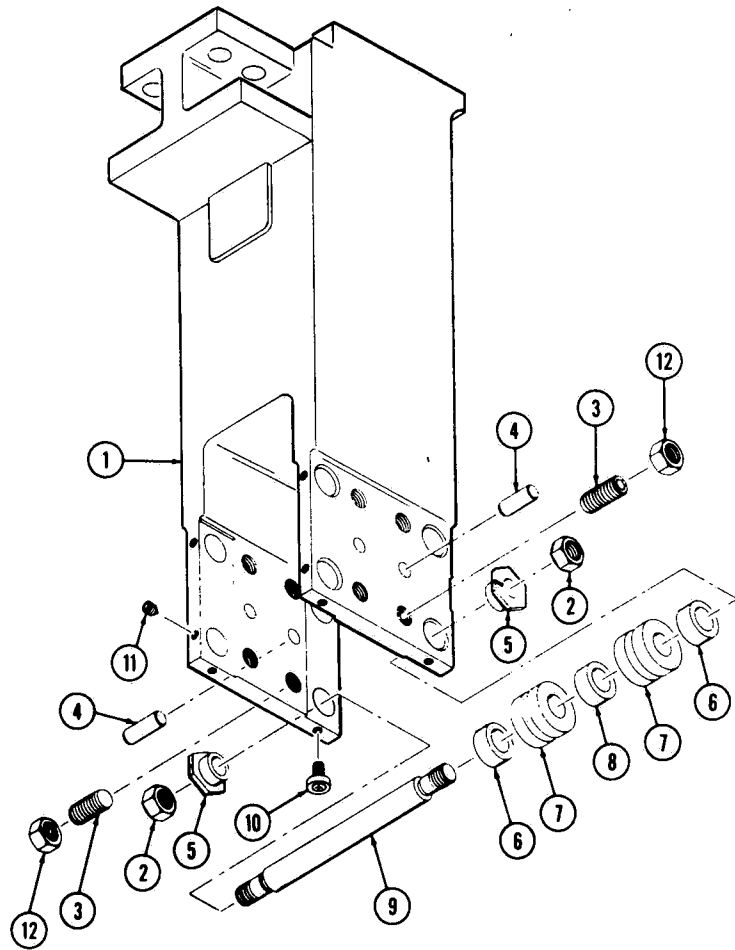

Figure 4. TABLE SUPPORT ASSEMBLY.
- Figure 4. TABLE SUPPORT ASSEMBLY.